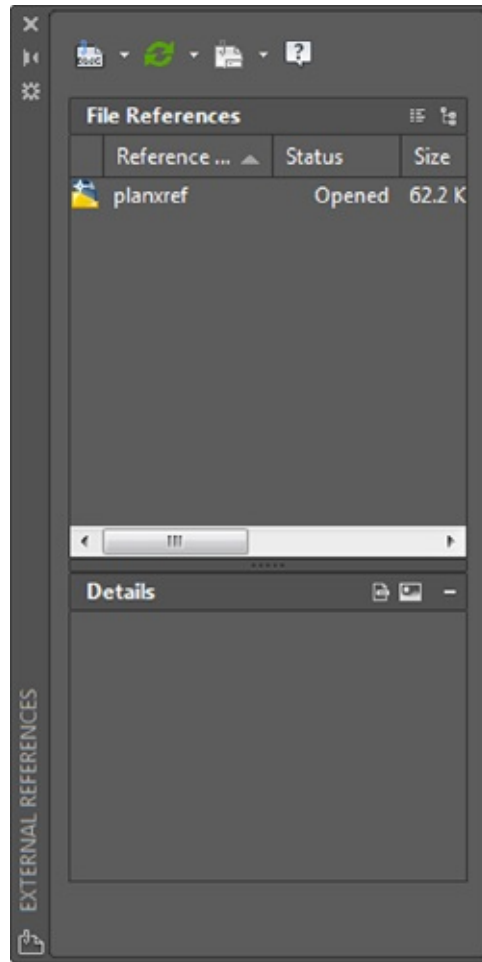

FIGURE 7.19 The External References palette
1. Click the External References tool in the Insert tab's Reference panel title bar or type **XR** ↵ to open the External References palette (see Figure 7.19).
Several options are available when you right-click an external reference name listed in the External References palette, as shown in Figure 7.19 earlier in this chapter. You saw the Reload option in an earlier exercise. The following other options are available: